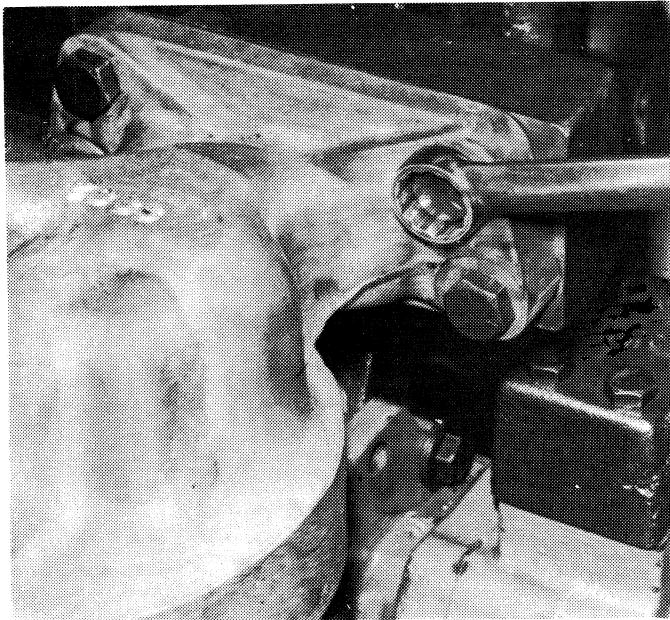

Figure 6-2. Removing or Installing Oil Filter Assembly.
2. Remove four screws and remove the oil filter assembly and gasket. See Figure 6-2.